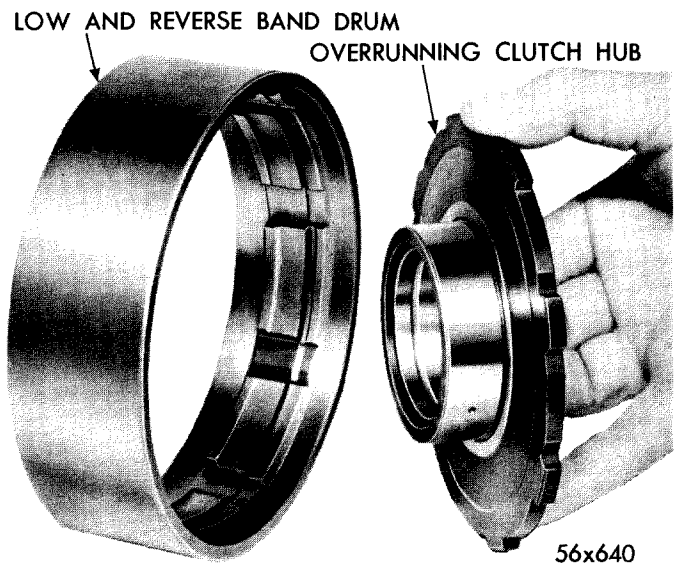

Figure 209—Removal and Installation of Overrunning Clutch Hub in Low and Reverse Band Drum
Remove overrunning clutch hub assembly from reverse band drum, as shown in Figure 209. Remove overrunning clutch cam roller springs (H) and rollers (I) (ten each) by removing fixture, Tool C-3527, from intermediate support and cam assembly. Have assembly over bench when removing tool.
Install overrunning clutch hub assembly (hub first) into snap ring side of the low and reverse band drum, see Figure 209.